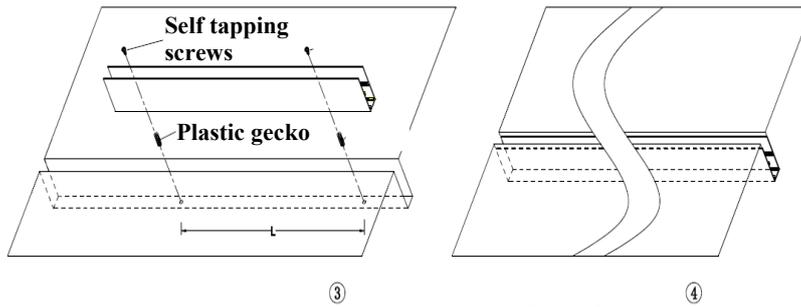

Figure 1
2. The installation method of embedded parts is shown in Figure 1.
① Make a groove at the installation position of the lamp, with a width of 32mm and a depth of D corresponding to the lamp height of 90mm. The groove length corresponds to the length of the installed lamp or the length of the spliced lamp;②If the embedded parts of the lighting fixture are used for splicing, adjacent embedded parts need to be connected with connecting pieces: insert the bottom slots of the two embedded parts on both sides of the connecting pieces and tighten the screws; ③Drill holes corresponding to the fixed holes of the embedded box in the slot, and refer to Table 1 for the distance between the fixed holes of the embedded parts. Place the plastic gecko into the hole, install the embedded part, and lock the self tapping screws (plastic gecko and self tapping screws need to be purchased by oneself); ④Installation of embedded parts completed